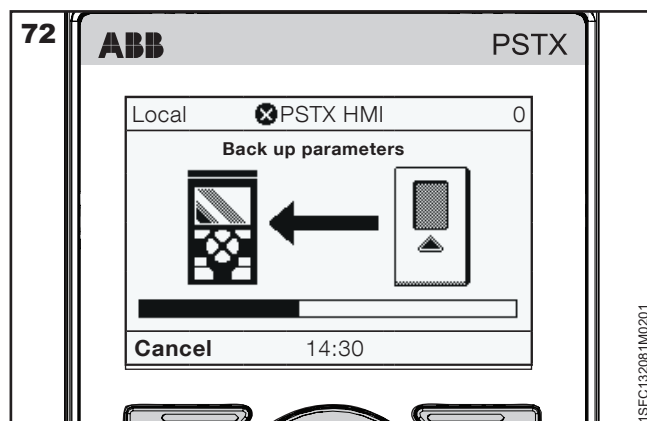

Fig. 72: Downloading parameters
3. The download of parameters will show as in **Figure 72**. The name of the backup file is displayed as the day, month and year it was created.